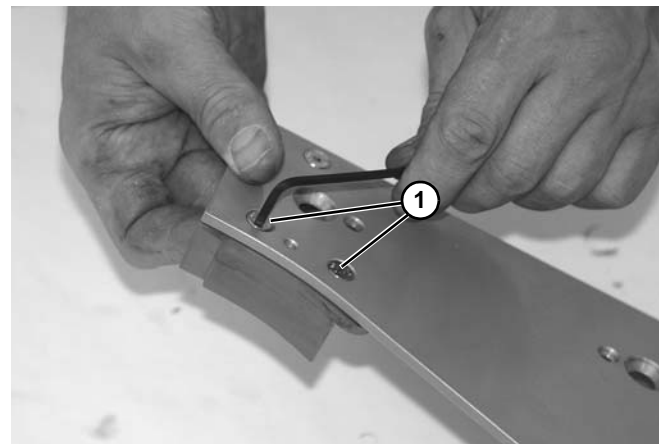

Figure 126
4. Remove two screws (Figure 126, item 1) from inside plates.